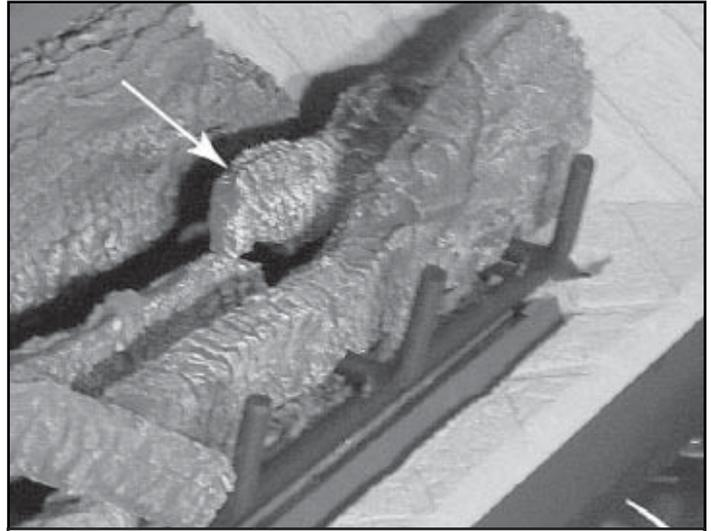

Figure 12.9 Set Right Center Log
- Place RIGHT CENTER LOG so that the groove in the bottom of the log sits on the right grate bar. The log should sit on the tip of the left center log against the log tab and against the tab on the right grate bar. See Figure 12.9.